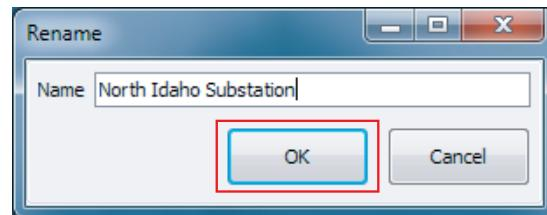

Figure 2.17 Rename Dialog Box
Step 4. In the window that displays (see *Figure 2.17*), type in the name you want the folder to have and click **OK**.